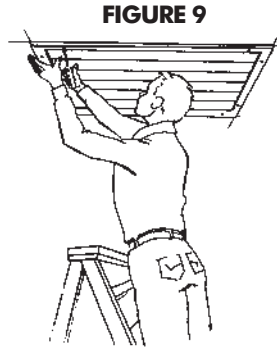

FIGURE 9
2. Install the shutter using the wood screws provided with your fan (Figure 9).